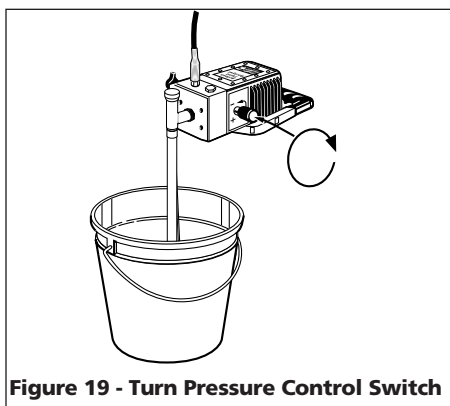

Figure 19 - Turn Pressure Control Switch
2. Turn Pressure Control fully clockwise to high pressure position (See Figure 19).